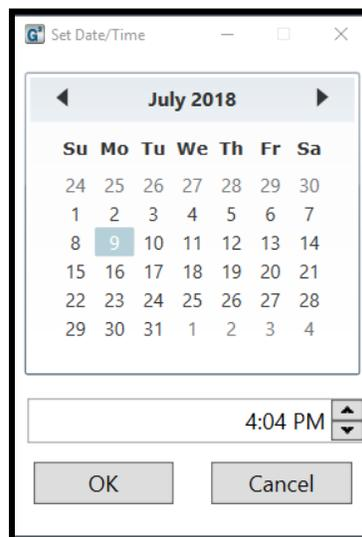

Figure 29
a. The following dialogue box will appear (Figure 29):